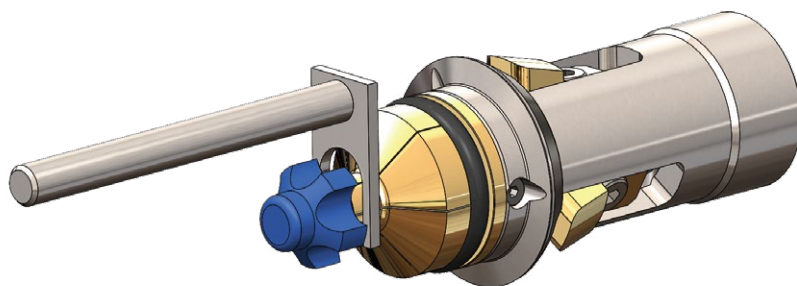

FIGURE 4
- 2 | Adjust the angular position of the fork insert to fit behind the workpiece (see Figure 4).